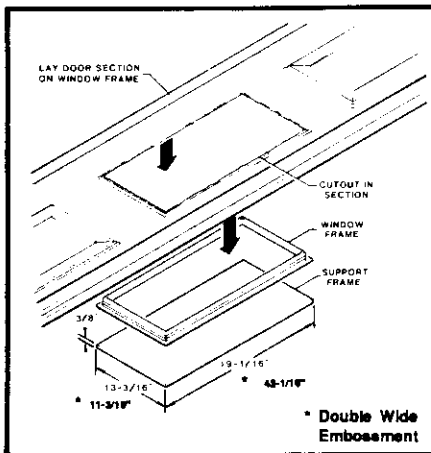

FIGURE 2
3. Place Support Frame (not supplied) on work table or flat surface. Set Window Frame on top of Support Frame. Lay door section face down on top of Window Frame. See Figure 2.